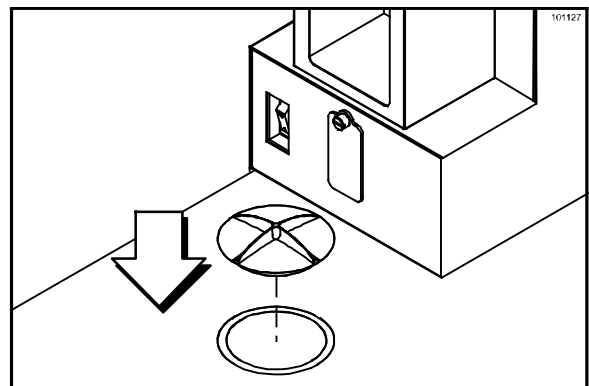

Figure 49
15. Install the whipped cream cover over the opening on the machine. (See Figure 49.)